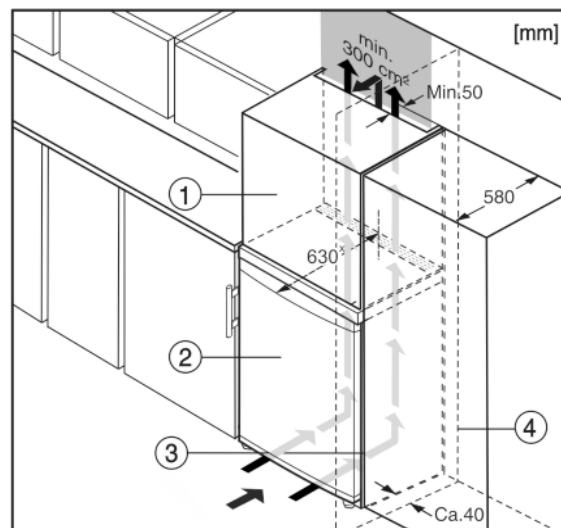

Fig. 8
- (1) Stack cabinet
- (2) Appliance
- (3) Kitchen cabinet
- (4) Wall
The appliance can be built into kitchen units. A top cupboard Fig. 8 (2) can be added above the appliance in order to bring the appliance Fig. 8 (1) up to the height of the fitted kitchen units.
When installing with kitchen units (max. depth 580 mm), the appliance can be positioned directly next to the kitchen cabinet Fig. 8 (3). The appliance will project by 34 mm* at the sides and 50 mm* in the centre of the appliance in relation to the kitchen cabinet front.
If the appliance is installed with the hinges next to a wall Fig. 8 (4), the distance between appliance and wall has to be at least 40 mm. This corresponds to the projection of the handle when the door is open.